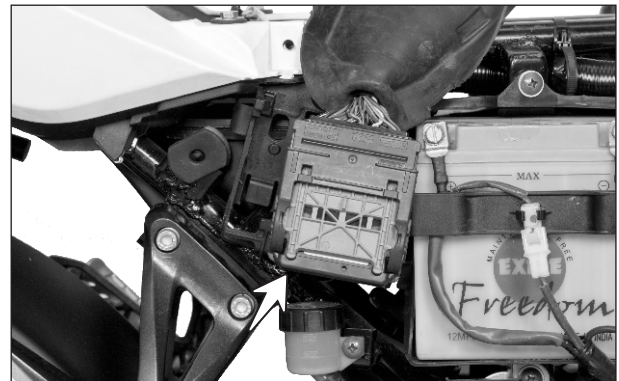

Fig. 5.14
- ECU (engine control unit) is placed below the rider seat assembly near the battery. ECU unit can be checked by diagnostic tool. (Fig.5.14)